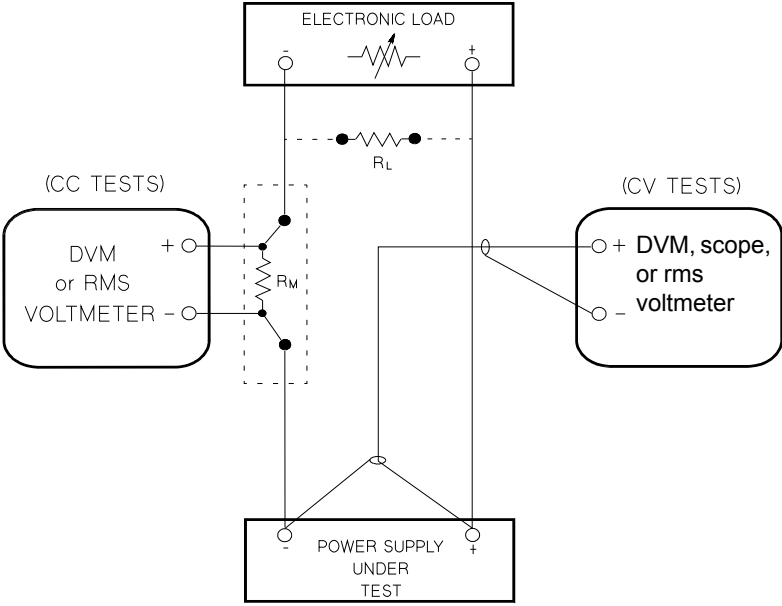
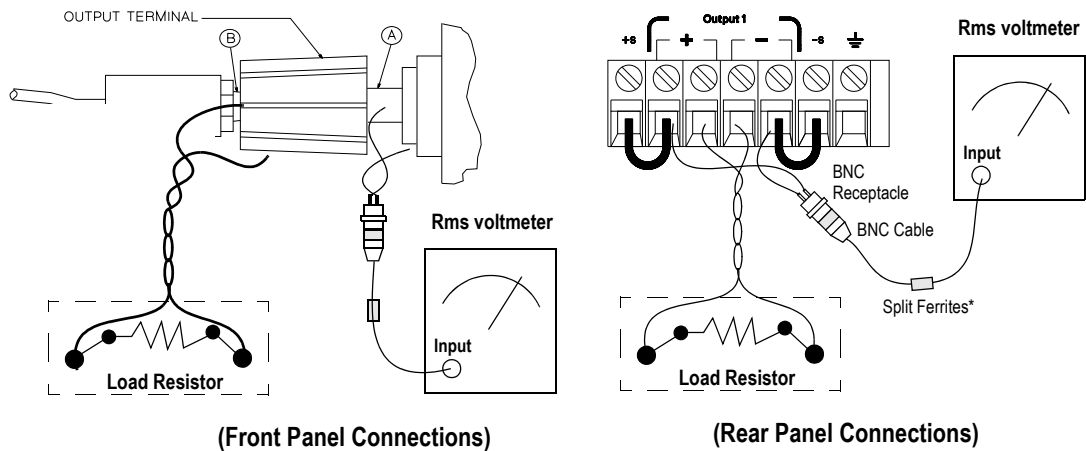

Figure 8-2 Performance verification test setup
Figure 8-4 CV PARD (ripple and noise)
Most tests are performed at the front terminals as shown in Figure 8-2. Measure the DC voltage directly at the (+) and (-) terminals on the front panel.
To eliminate the output current measurement error caused by the voltage drops in the leads and connections, connect the current-monitoring resistor between the (-) output terminal and the load as a four-terminal device. Connect the current-monitoring leads inside the load-lead connections directly at the monitoring points on the resistor element (Refer to R_M in Figure 8-2).
- 1 Turn off the power supply and connect a digital voltmeter between the (+) and (-) terminals of the output to be tested as shown in Figure 8-2.
- 1 Turn off the power supply and connect a digital voltmeter between the (+) and (-) terminals of the output as shown in Figure 8-2.
For better measurement results, it is recommended to make the connection between the BNC receptacle and the output terminals as short as possible, and to use the recommended split ferrites with the BNC-to-BNC cable as shown in Figure 8-4.
- 1 Turn off the power supply and connect the output to be tested as shown in Figure 8-2 to an oscilloscope (AC coupled) between the (+) and (-) terminals. Set the oscilloscope to the AC mode and bandwidth limit to 20 MHz. Connect a resistive load (13.5 Ω)^[1] to the terminal at **B** as shown in Figure 8-4.
- 5 Disconnect the oscilloscope and connect the AC rms voltmeter in its place according to the “V_{rms} measurement techniques” on page 200 and as shown in Figure 8-4. The rms voltage reading must not exceed the rms limit of 0.5 mV^[3] or 1 mV^[4].
- 1 Turn off the power supply and connect the output to be tested as shown in Figure 8-2 with an oscilloscope. Operate the electronic load in the constant current mode.